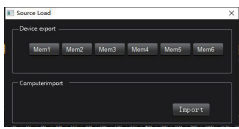

Figure 3.4.4
**Step2:** Click "load" item will pop up after loading machine preset scene window dialog box (Figure 3.4.4).
**Step 3:** as dialog box of figure 3.4.4 , select the machine where the user wants to load a preset number (as selected on the 3rd), and then point below the "import" button on the pop-up shown 3.4.5 loading data transfer progress shown in the wait window.